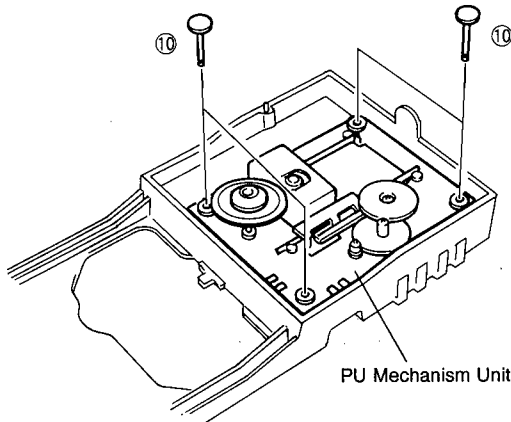

Fig. 4
- b. Pull out 4 Pins (⑩) and then remove the PU Mechanism Unit in Fig. 4.